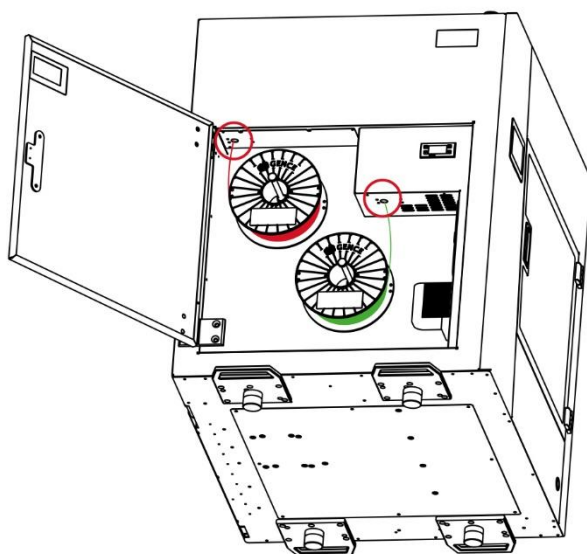

Fig. 57 Correct loading of material for Tool 0 and Tool 1
6. Slide the filament end into the input opening (marked with a red circle in fig. 57). The printer will start the procedure of initial filament loading and the heating of the suitable printer's hotend will start simultaneously.
4. Confirm successful unloading of the new material by pressing the "Continue" key and manually remove the rest of the filament from the input opening (fig. 57).